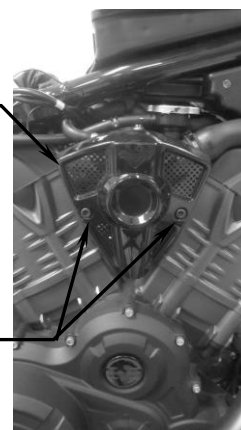

FIGURE 2
2. Remove (2) M6 cap screws securing right side cover between engine cylinders, see Figure 2. Remove cover.